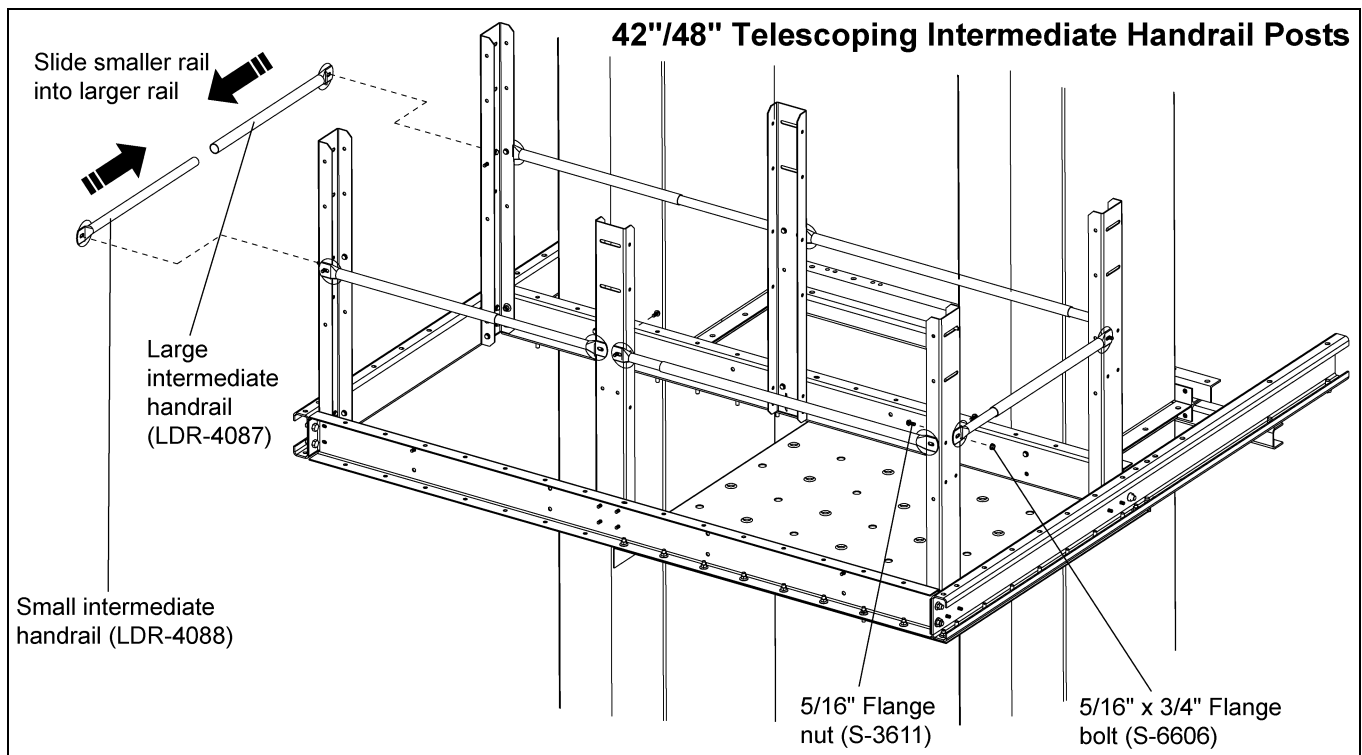

Figure 7L 42"/48" Telescoping Intermediate Handrail Posts
2. Fasten the intermediate handrails to the posts using 5/16" x 1" HHCS bolt (S-7470) and 5/16" flange nuts (S-3611). (See Figure 7L.)